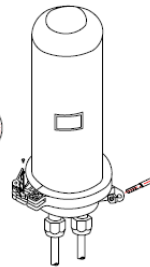

Figure 7
6.2 Wall mounting application: Fix the bracket on the wall with the bolt. (Metal hoop is not required.) See figure 7